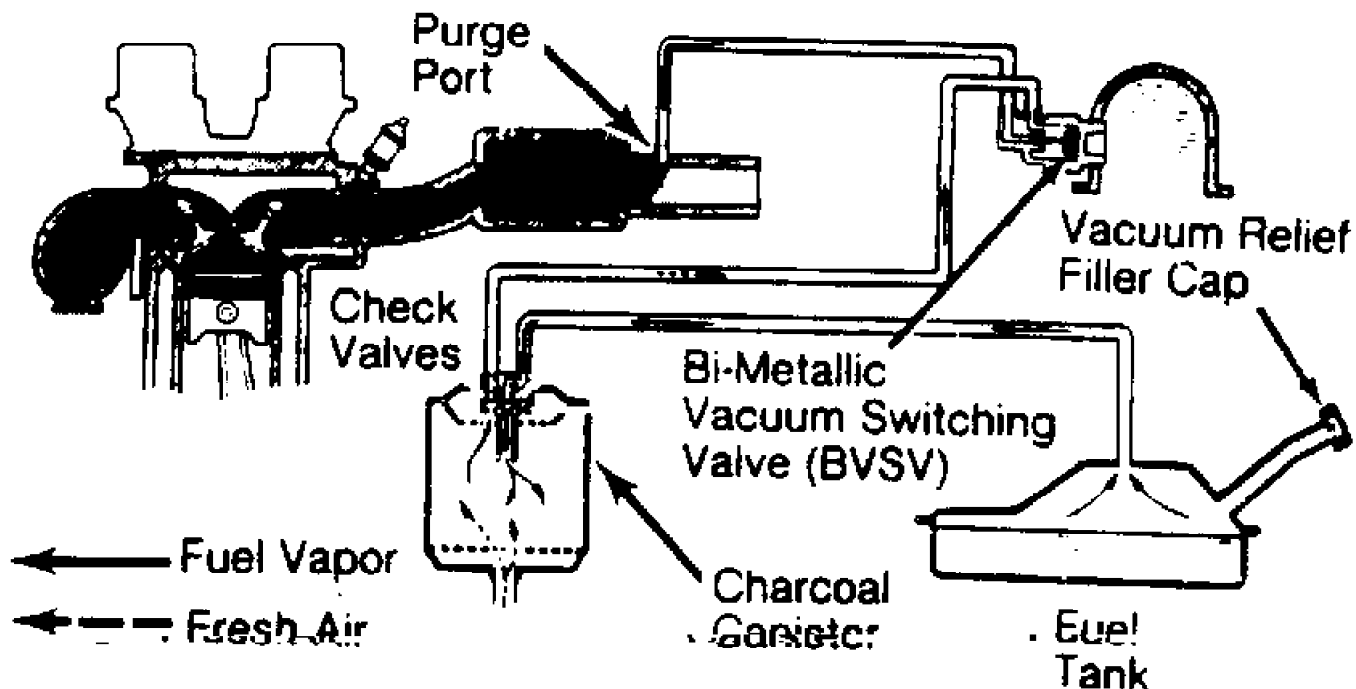

Fig. 28: Typical Fuel Evaporation System
The purpose of the Fuel Evaporation Emission Control (EVAP) system is to prevent the escape of gasoline vapors (hydrocarbons) from the fuel tank into the atmosphere. To reduce Hydrocarbon (HC) emissions, evaporated fuel from the fuel tank is routed through the charcoal canister into the intake manifold for combustion in the cylinders. See Fig. 28. Various model and engine types will have different evaporative emission system components and operating parameters. For specific EVAP system operating parameters and testing of system or components on various models, see FUEL EVAPORATION under EMISSION SYSTEMS & SUB-SYSTEMS in I - SYS/COMP TESTS article.